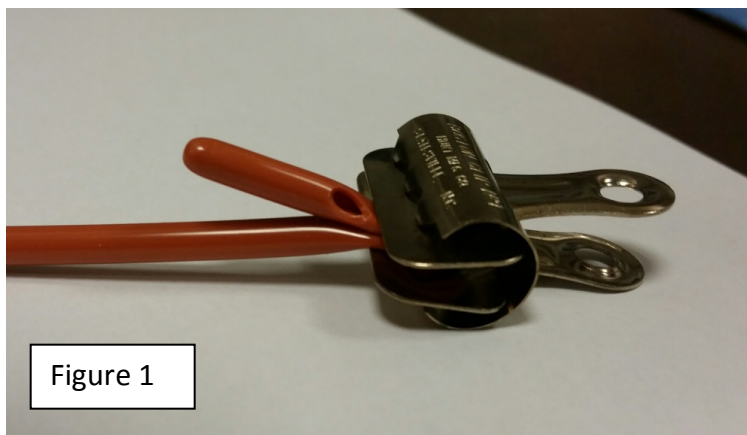

Figure 1
- Use paper clip or binder clip to pinch bottom of tube ABOVE holes, this will prevent fluid from leaking before injection (see Figure 1).